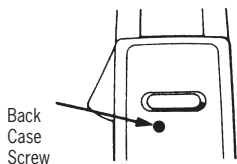

Fig.10
- Remove the screw on the back of the case for battery and fuse replacement (Fig.10). Replace only with AWS fuse part F-1 or approved equal. 1/2A, 250V, 1/4"x1-1/4" Fast acting High Current interrupting style fuse.